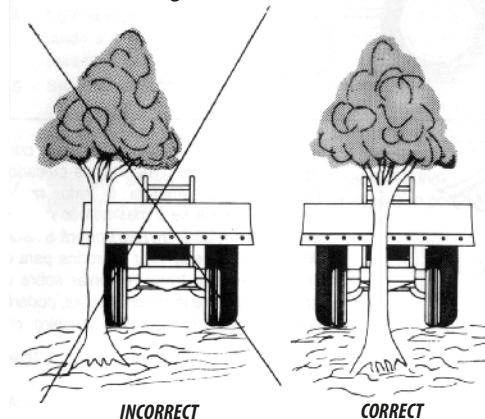

Figure 20
- 09 - Always use the central part of the loader, keeping the horizontal position, as shown in figure 20.